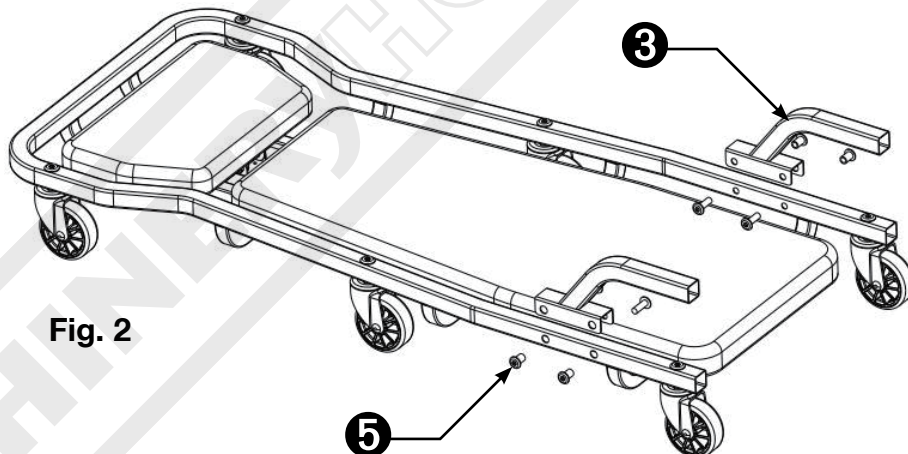

Fig. 2
Install the support handles (❸) at both ends with screws and nuts (❹) as shown in Fig. 2.